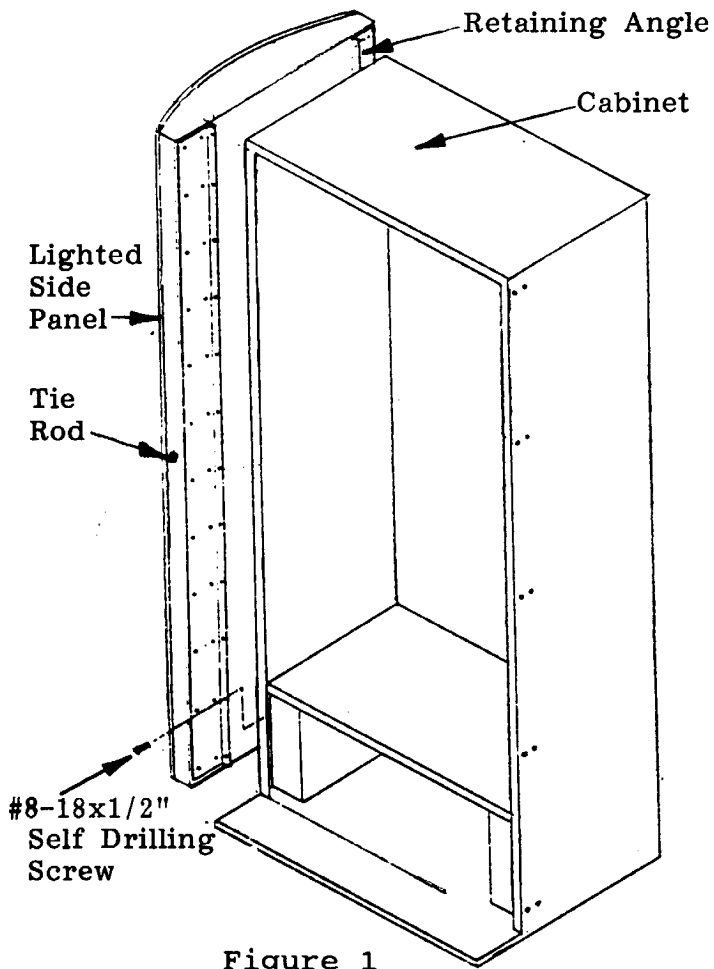

Figure 1
1. Installation of the side panel on the left side of the vender is shown. See figure 1.
4. Place side panel in position as shown in figure 1. The top of the side panel should be flush with the top of the cabinet. Push the side panel to the right and then towards the rear.
5. Let the flange of the retaining angle go tight against the cabinet flange. See figure 1.
6. Use the flange as a template and drill twelve (12) 9/64" holes in the cabinet's flange. Secure with #8-18 x 1/2" Self Drilling Screws provided. See figure 1. (Note: 24 screws are used to secure the side panel, 12 front and 12 rear.) Use the same procedure to secure the side panel at the rear.